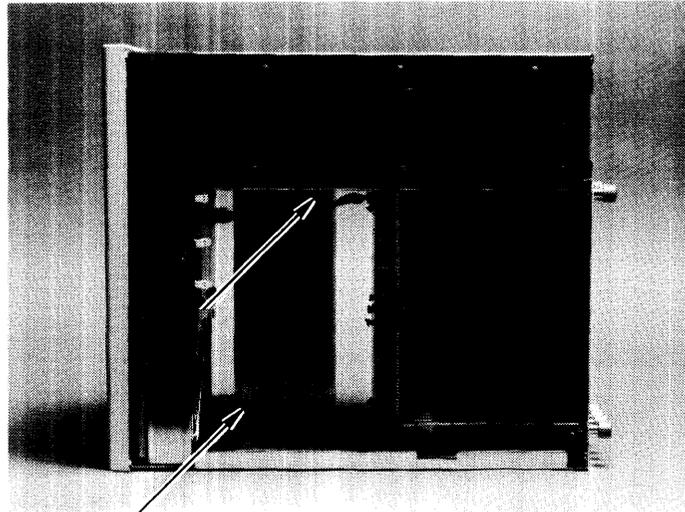

Figure 2-8. Expander to Computer Attaching Screws
- a. Remove the expander's attaching screws shown in Figure 2-8.